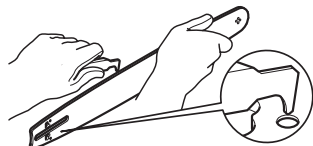

Fig.41
3. Check the drive sprocket (23). If it is worn or damaged due to strain, have it replaced by an authorised service agent.
4. Clear residue from the rails on the guide bar (4) using a screwdriver, putty knife, wire brush or other similar tool. This will keep the oil passages open to provide proper lubrication to the guide bar (4) and saw chain (3)(Fig. 41).